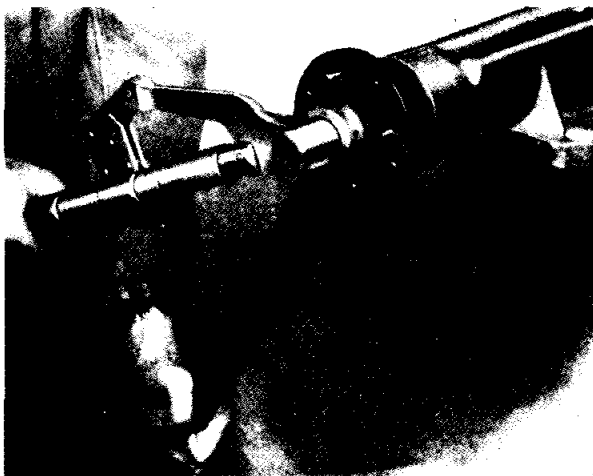

Fig. 27 Tightening Driving Flange Securing Nut with torque spanner and Churchill Tool No. 20SM. 90.
- (s) Fit plain washer, slotted nut as shown in Fig. 27, tightening to 85—100 lbs. ft., and install split pin.